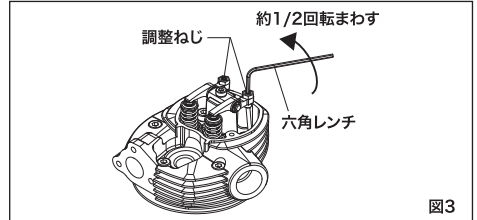

図3
2. Turn adjusting-screw approx. 1/2 turn counter-clockwise to open gap, using appropriate tool -i.e. Allen hex key.(Fig.3.)